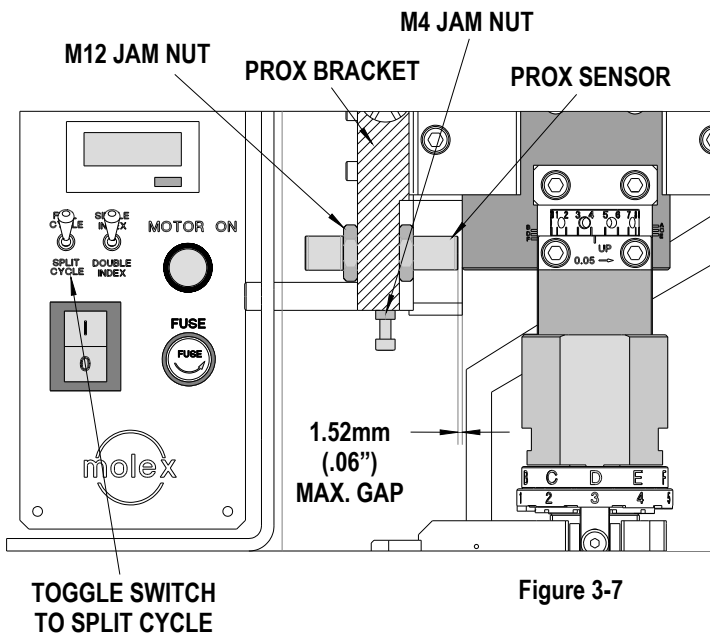

Figure 3-7
4. Loosen the two M12 jam nuts on the split cycle prox, located on both sides of the prox bracket. Then loosen the M4 jam nut holding the M4 X 25 SHCS. Turn the screw clockwise to raise the prox or counter-clockwise to lower the prox. See Figure 3-7. Raise the prox if the punch is partially crimping the terminal; or lower the prox if the ram is not closing far enough and not centering the terminal punch.
5. Retighten the M4 SHCS and the (2)M12 jam nuts positioning the prox for the 1st position of the split cycle. See Figure 3-7.
Note: The gap between the prox and the ram should be 1.52mm (.06") Max. See Figure 3-7.